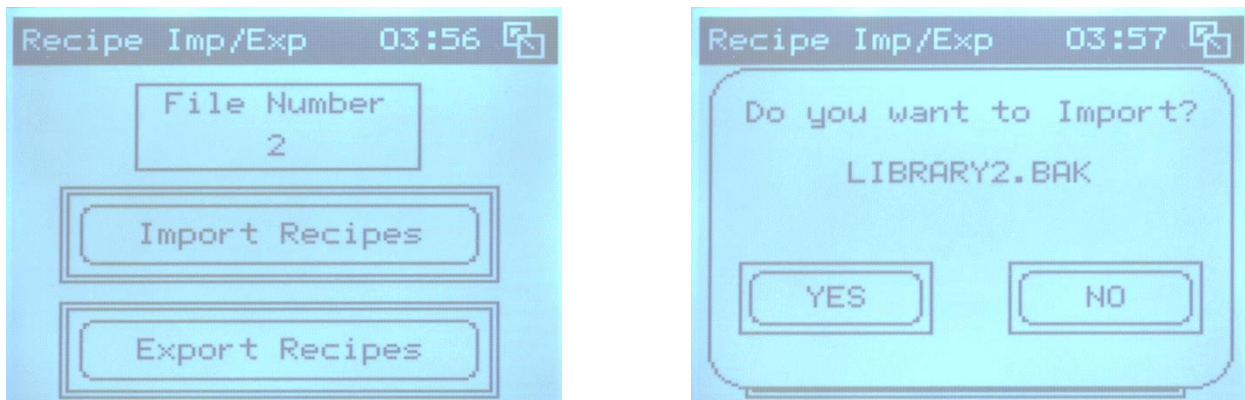

Figure 36: Import/Export screen (left). Confirmation screen (right)
System functionality is controlled with parameters accessible through the setup editor which is available through the main menu screen. A setup button will appear on the screen after a user has logged in at the supervisor or maintenance level (Figure 36 left). The selection of parameters available for adjustment depends on the level of access and is listed in the settings editor for the supervisor level (Figure 36 right), which opens after pressing setup set up.
- Press the curved arrow to open the next screen (Figure 36)